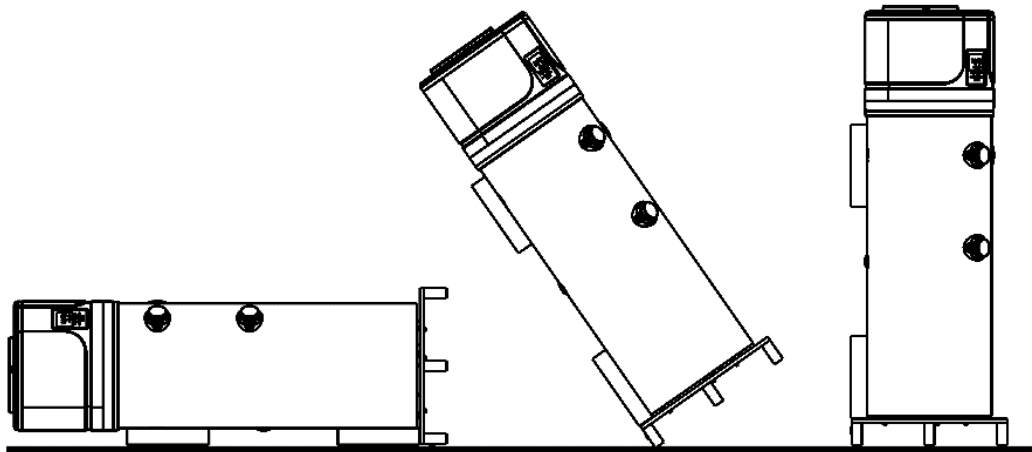

Fig. 2a;
Please follow the described steps bellow in order to mount three supports (fig. 2a):
- Incline the appliance as per Fig. 2a;